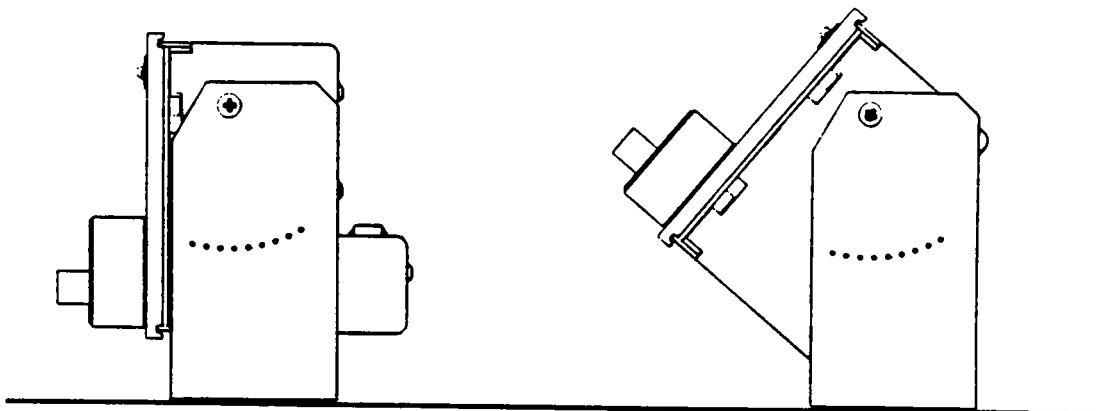

Figure 2-1. Installing the WJ-9605 with the Optional Mounting Adaptor
allows the unit to be adjusted ± 45 degrees from the mount surface as required for optimum viewing and reach. **Figure 2-1** illustrates the WJ-9605 attached to the mounting adaptor and mounted to a horizontal surface. To install the adaptor on the WJ-9605, perform the following procedures:
- c. Install a spring plunger (P/N S-48A) in the lower screw hole on both sides of the unit (see **Figure 2-1**) and hand tighten.